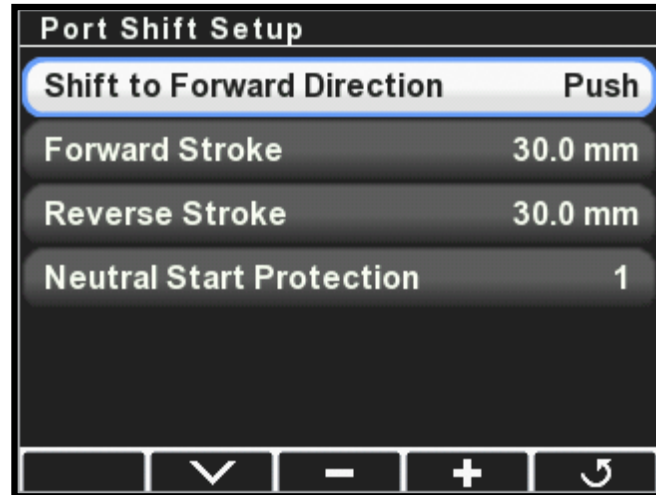

Figure 6-2. Shift setup screen.
- For each shift actuator set the Shift to Forward Direction parameter (figure 6-2) to Push or Pull to match the direction the actuator is required to move to engage *forward* gear. Don't adjust the other parameters yet.